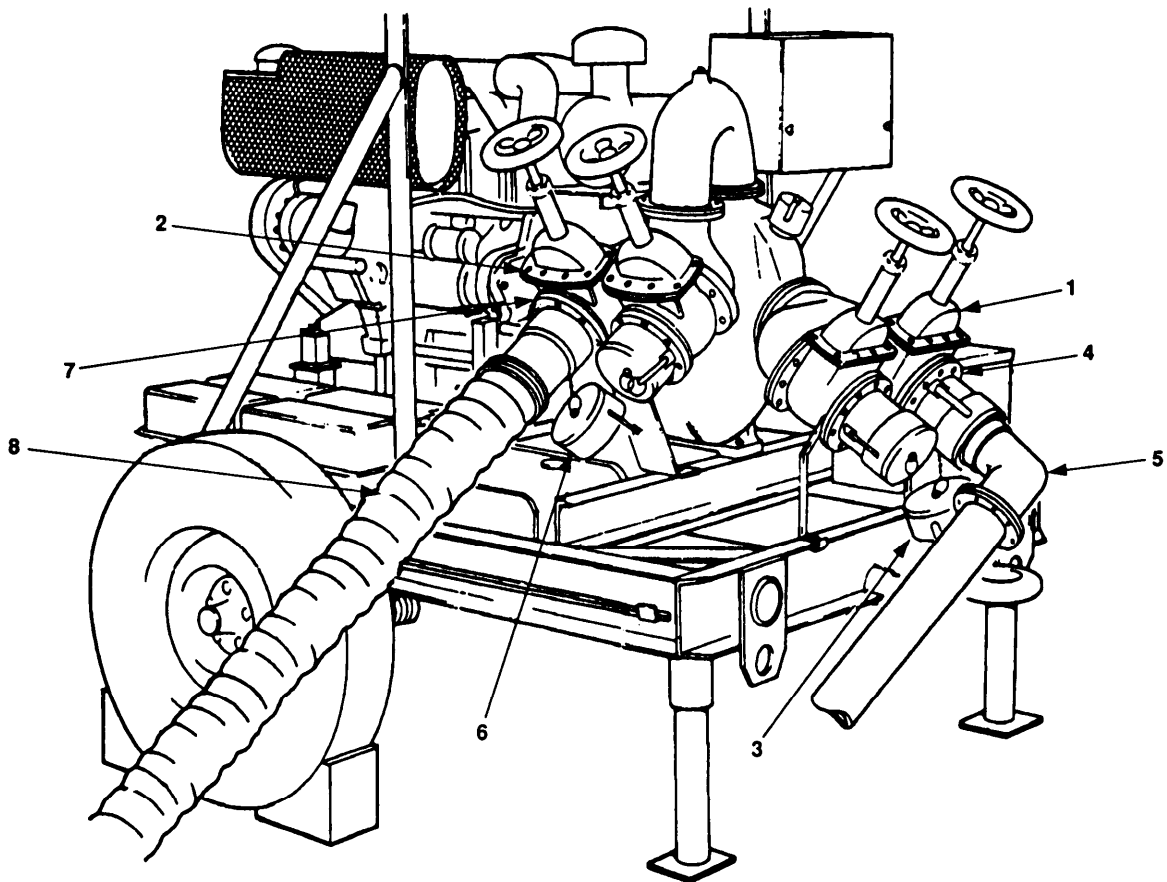

Figure 2-4. Concocting Suction and Discharge Hoses.
- (1) Close suction valves (figure 2-4, 1) and discharge valves (2).
- (2) Release coupling half plug (3) from coupling half (4).
- (3) Connect suction hose (5) to coupling half (4).
- (4) Release coupling half cap (6) from coupling half (7).
- (5) Connect discharge hose (8) to coupling half (7).
- (6) Connect suction hose (5) to upline source.
- (7) Connect discharge hose (8) to downline source.